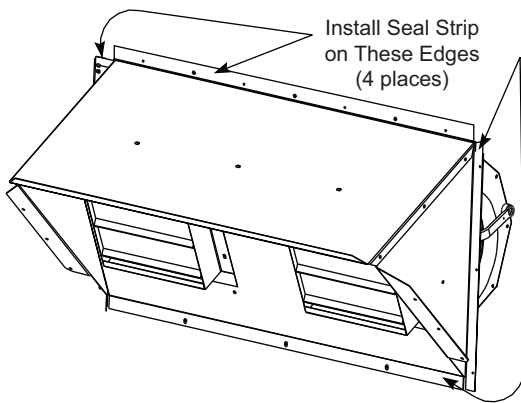

Fig. 9 — Hood Assembly
2. Position the barometric relief assembly at return air section of unit. Add seal strip to the edges of the hood assembly. See Fig. 9. The long piece of seal strip is for the top and bottom. The short piece is for the two sides.